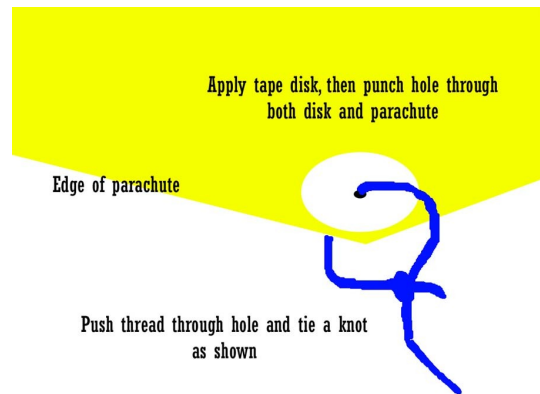

Figure 7
- **Step 16** Assemble the parachute according to the package instructions, but with the modification shown in Fig. 7 above. Attach the barrel end of the second snap link to the shroud lines and secure the knot with a drop of thinned glue. Allow to dry.